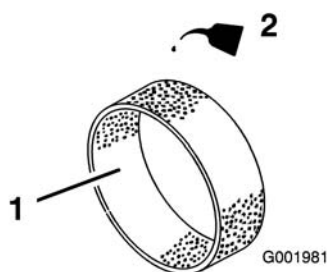

Figure 42
- Put one or two ounces of oil on the element (Figure 42).